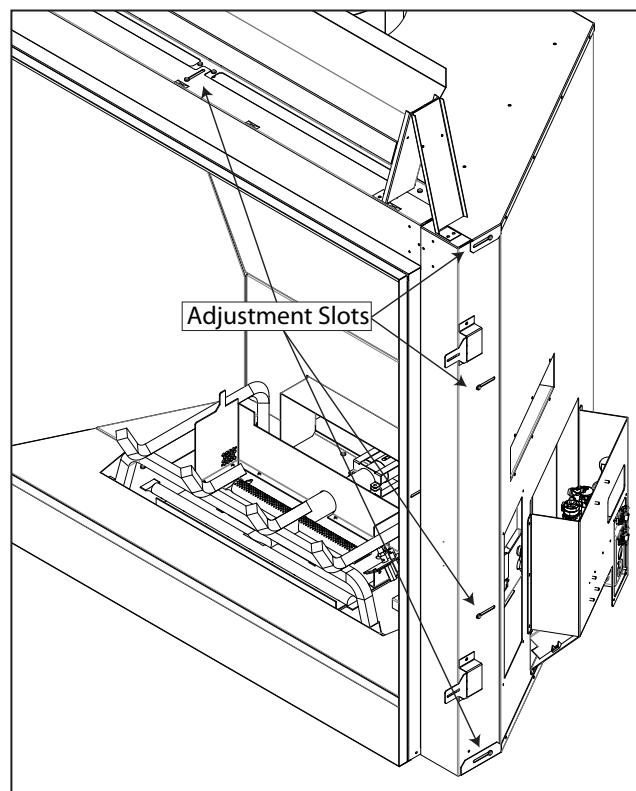

Figure 37: Framing Depth Adjustment
4. There are thirteen (13) slotted fasteners that need to be loosened to adjust the framing depth. There are two (2) behind each of the side covers removed in the prior step, four (4) on the outside of each cabinet side, and one (1) of the top-center of the unit (see Figure 37).
5. With the fasteners loosened, the front face should now be adjustable. All pieces are still connected to each other and should move as one. Adjust the depth to match the desired framing material then retighten the thirteen (13) slotted fasteners.